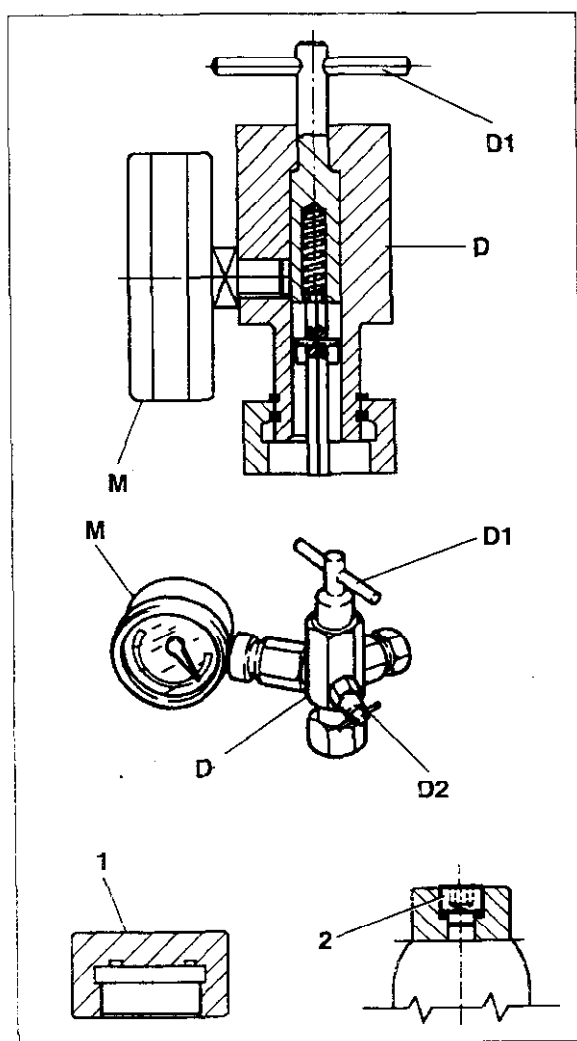

Fig. 3-19 Accumulator pre-charge test
- Remove protection cover (1, Fig. 3-19).
- Loosen the screw (2) by half turn using an hexagonal Allen wrench.
- Screw in tool no. 75298472 (D) on the accumulator connection.
- Turn the handwheel (D1) to loosen the screw (2).
- When the pointer of the pressure gauge (M) starts moving, turn out the handwheel (D1) by one more turn.